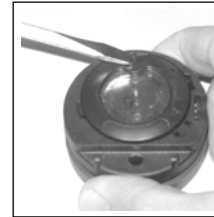

Fig. 71 - Ring Removal
- While applying steady inward pressure on the center of the Battery Hatch, rotate the Hatch Retaining Ring 10 degrees clockwise using a flat blade screwdriver (Fig. 71) or a Battery Hatch Tool.